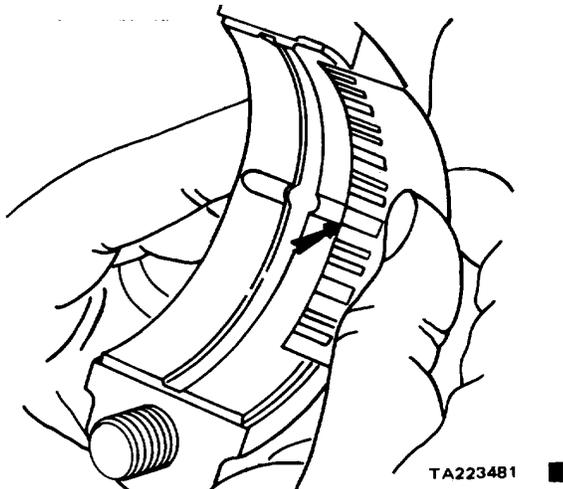

Figure 9-28. Checking Bearing Clearance with Plastigage.
(1) Place a piece of plastigage near the oil hole of the bearing cap.
(2) Position the cap on the block and secure with the two screws and lockwashers. Tighten the screws to 85 to 95 ft/lbs torque.
(3) Remove the bearing and bearing cap. Check the bearing journal-to-bearing clearance indicated by the plastigage (fig. 9-28)